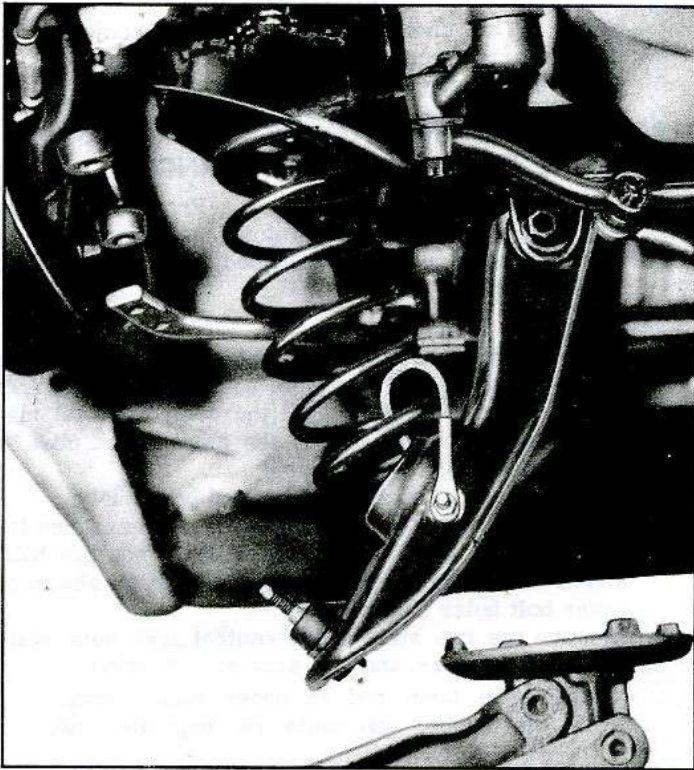

Fig. 3-16—Spring Relaxed
8. Carefully lower hoist or floor jack until spring is free. See Figure 3-16. Remove cable or chain installed in Step 3 and withdraw spring.